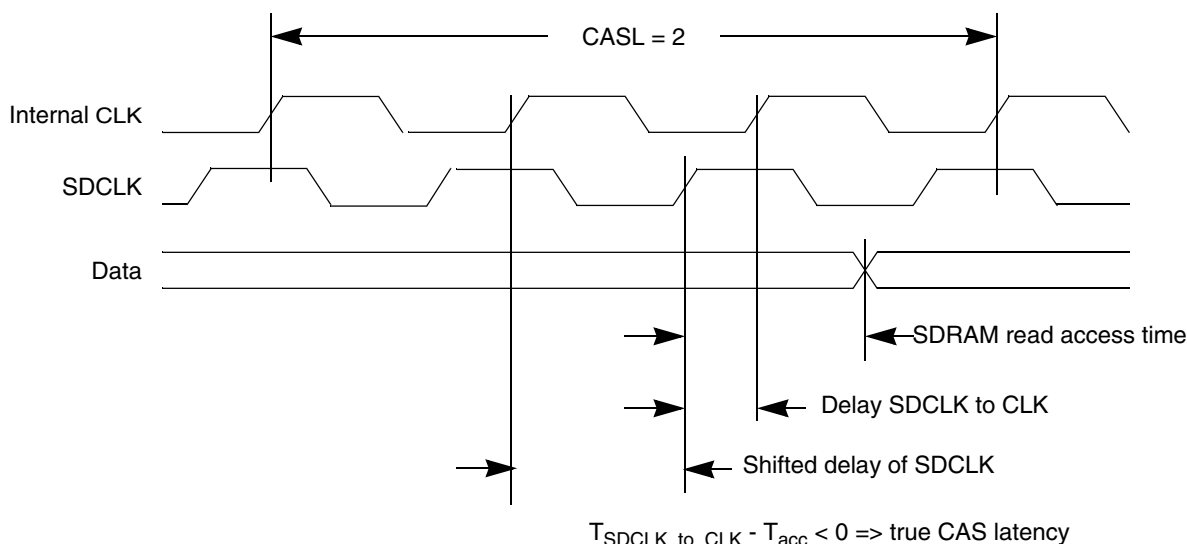

Figure 9-7. Timing Refinement with True CAS Latency and Inverted SDCLK
- High-speed timing refinement with true CAS latency. See Figure 9-7.